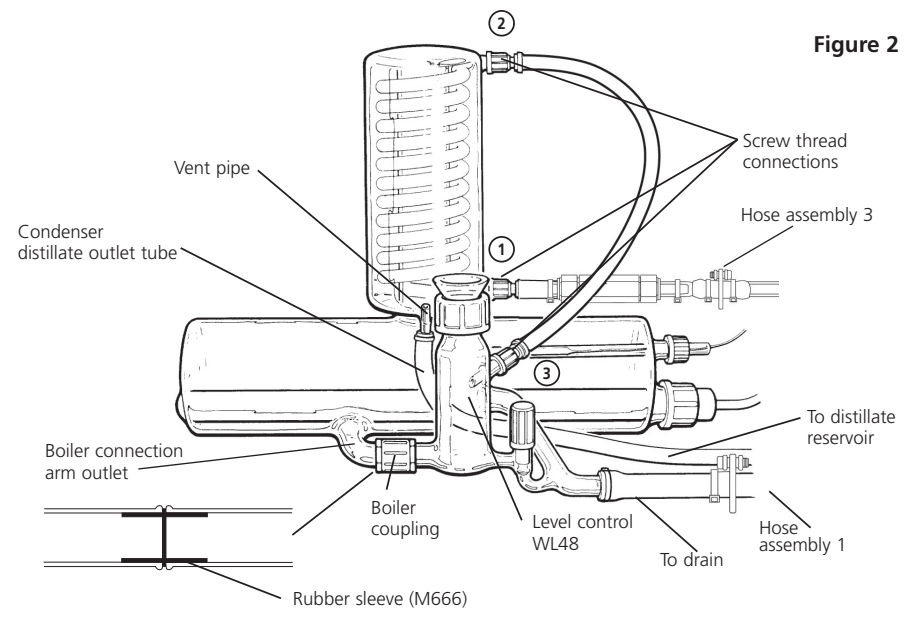
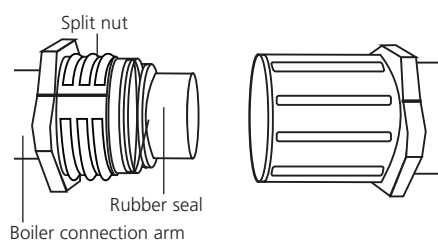

Figure 2
Figure 2b: Boiler coupling
- 6 Refer to fig. 2. From the bag of hoses take the 1000mm length of 8mm diameter vinyl tubing and connect it to the distillate outlet tube of the condenser. Secure with a tie strap.
- i) the cabinet base, item 24, if the A4000 is to be wall mounted.
- ii) the cabinet side, item 19, if bench mounted.
- 8 Take the 1000mm length of 16mm tubing and push through the larger of the three holes, item 20, on the side of the cabinet. This may be easier if the tubing is lubricated by wetting it with water. Continue until the tube extends approximately 250mm into the main chamber, roughly level with the outlet of the condenser.
- 11 Refer to fig. 2b. Undo the split nut from the coupling. Open the split plastic nut and place on the outlet of the boiler connection arm. Attach level control to boiler connection arm ensuring rubber seal is in position. Secure by screwing split nut into boiler plastic coupling.
- 12 Unscrew the black plastic screwcap from the WL48 and assemble the glass funnel WF48 – item 4.
- 13 Looking inside the cabinet, identify the vinyl tubing assembly fitted with 3 numbered screwthread connectors. Referring to illustration fig. 2 make the following connections:-
3. For hose assembly 3 connect the 8mm tubing from the spigot and to the water flow control switch secure with a tie-strap. Connect the free end to the mains water inlet valve and secure with tie-straps. See figs. 2 and 3c.